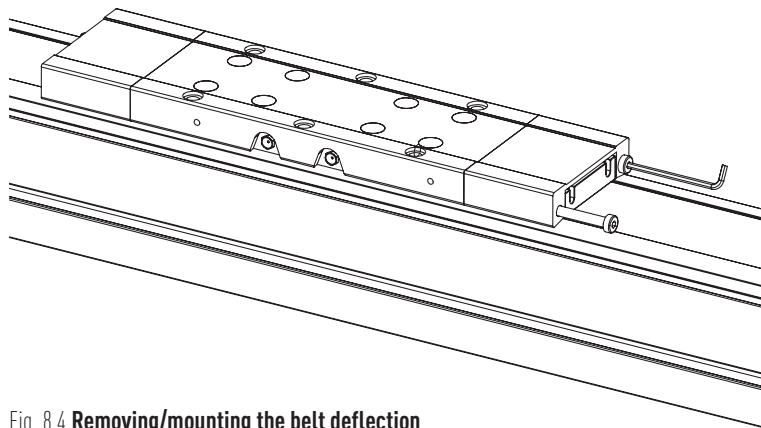

Fig. 8.4 **Removing/mounting the belt deflection**
- ▶ Undo the belt deflection screws. Remove the belt deflection from both ends of all carriages (see Fig. 8.4).